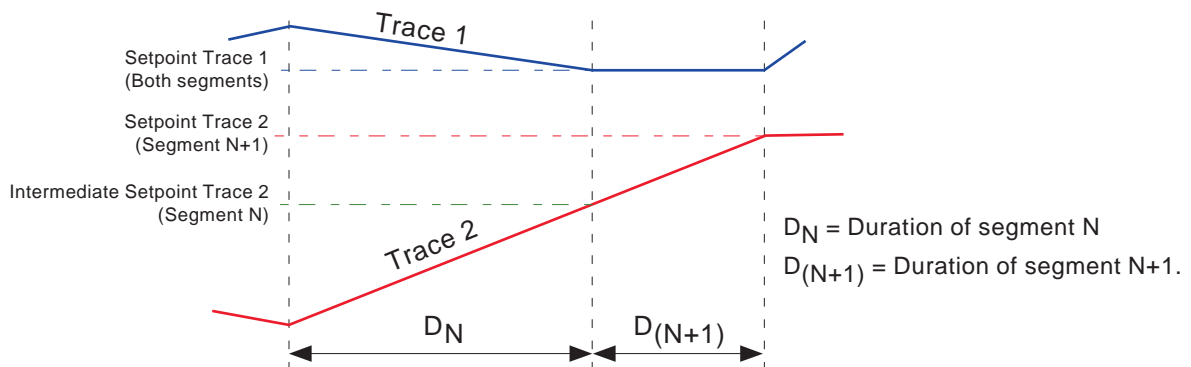

Figure 7.2.1 Dual segment ramping
- Durations apply to both traces. It may be necessary to use more than one segment for the ramp on one trace to satisfy the changes on the other trace. In such a case, the user must calculate intermediate target values for the trace. In figure 7.2.1, Trace 1 reaches its target before Trace 2, and must then 'wait' for Trace 2 to catch up. It is therefore necessary to use a second segment and to calculate a new intermediate setpoint for trace 2, as shown.